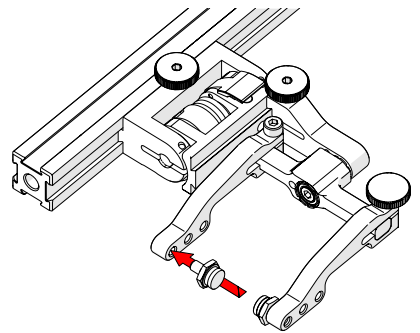

Fig. 57 - Place pivot buttons
4. Using the supplied 3/8 in wrench (Fig. 28), place the pivot buttons as required (Fig. 57).